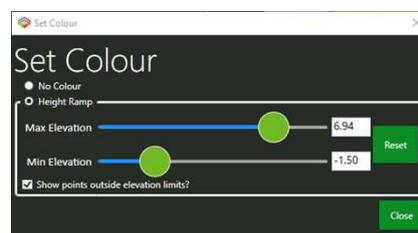

Figure 79. Set Colour dialog.
2. This will open the *Set Colour* dialog (Figure 79).